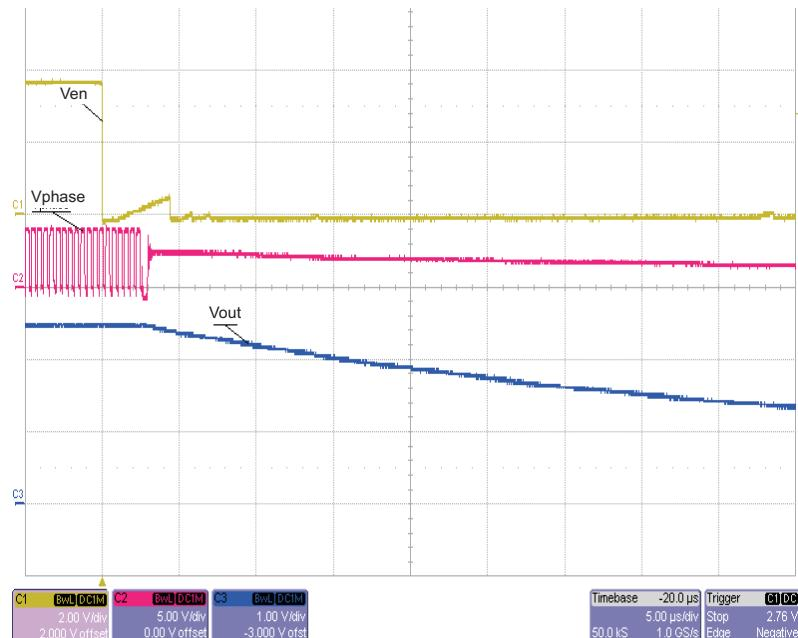

Figure 9. Shutdown Output With EN Pin. $V_{in} = 4$ V, $V_{out} = 2.5$ V, $I_{out} = 0.5$ A; CH1 = Input Voltage; CH2 = Phase; CH3 = Output Voltage
This EVM can support evaluation of either the TPS62080 or TPS62080A IC. The EVM is delivered with the TPS62080 IC and the only difference between the two ICs is the discharge resistor that is internally connected between the SW pin and the ground when the IC is disabled. The TPS62080 connects a 1k and the TPS62080A connects a 50 Ω . To test with the 50 Ω discharge resistor, the IC can be replaced with TPS62080A. When using TPS62080A, Figure 9 will have a faster discharge on V_{OUT} .
10. Remove the enable shunt, JP2, and connect CH1 to JP2-2 (EN) and plug in the input supply. Arm the oscilloscope, and short between JP2-2 and JP2-1 (OFF). The captured waveform shows output power down by pulling EN low (Figure 9).